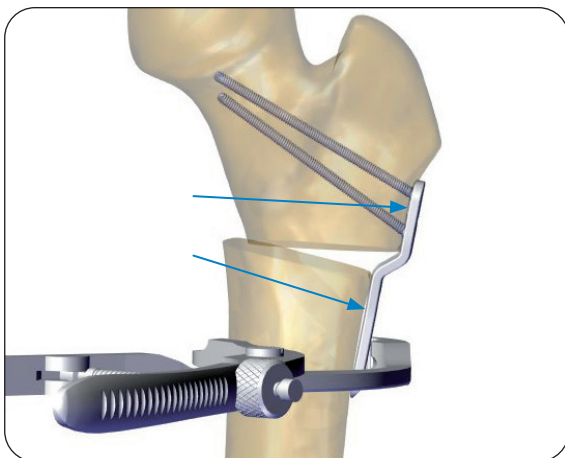

Fig. 20
**WARNING:** Ensure to position the plate parallel to the femoral shaft in the AP and lateral view, otherwise this may lead to variations to the desired neck-shaft angle and to undesired extension/flexion. (**Fig. 20**)